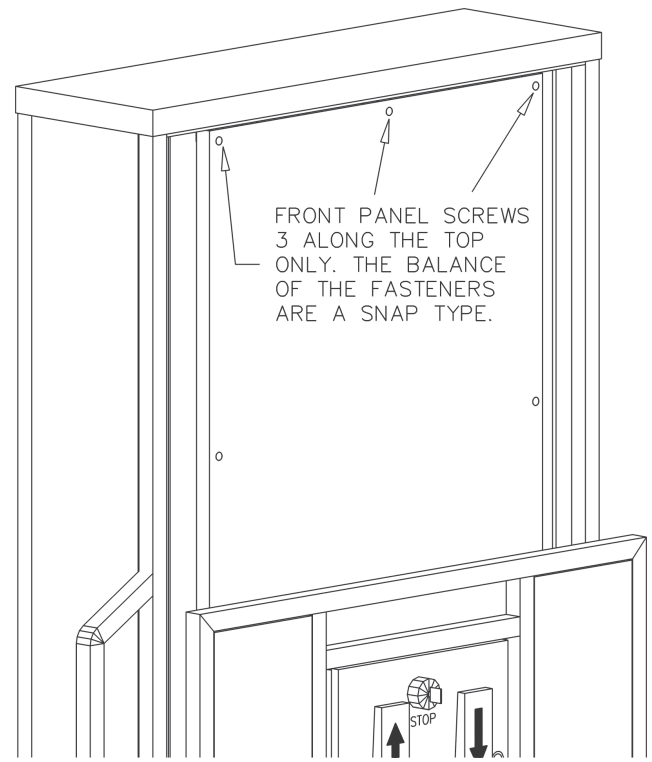

Figure 2. Locating the screws that attach the main front panel.
3.2 The w-chair lift should be inspected and maintained annually. (See Drive Nut Safety Bulletin) In addition to inspecting the drive nuts, the drive screw should be cleaned and re-lubricated at least once a year. In order to access the screw drive you must remove the main front panel (Fig. 2 & 3). The gear box is oil filled and should be checked for leaks. Remove the top breather plug to check that the gear box fluid level is at least to the center of the motor-manual crank shaft.
In order to lubricate the drive screw you must remove the main front panel and a carriage guide frame panel (Fig. 2 & 4). Liberally apply grease on the drive screw by hand, replace the covers and run the lift up and down a few times.